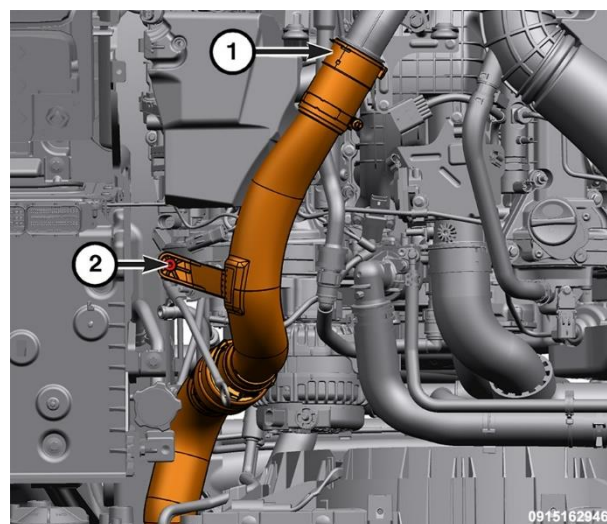

Figure 188 – Charge Air Cooler (CAC) Hose
28. Remove the Charge Air Cooler (CAC) hose bolt (2) securing the CAC hose to the support bracket (Figure 188).
29. Release the retaining clip (1) and disconnect the CAC hose from the turbocharger elbow and position aside (Figure 188).
57. Install the Charge Air Cooler (CAC) hose bolt (2) securing the CAC hose to the support bracket and tighten to 11 N·m (8 Ft. Lbs.) (Figure 188).
58. Attach the retaining clip (1) and connect the CAC hose from the turbocharger elbow (Figure 188).